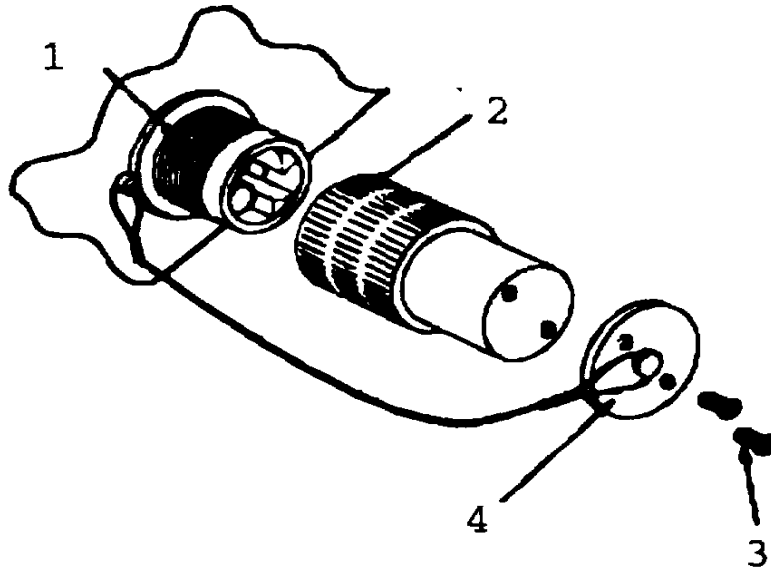
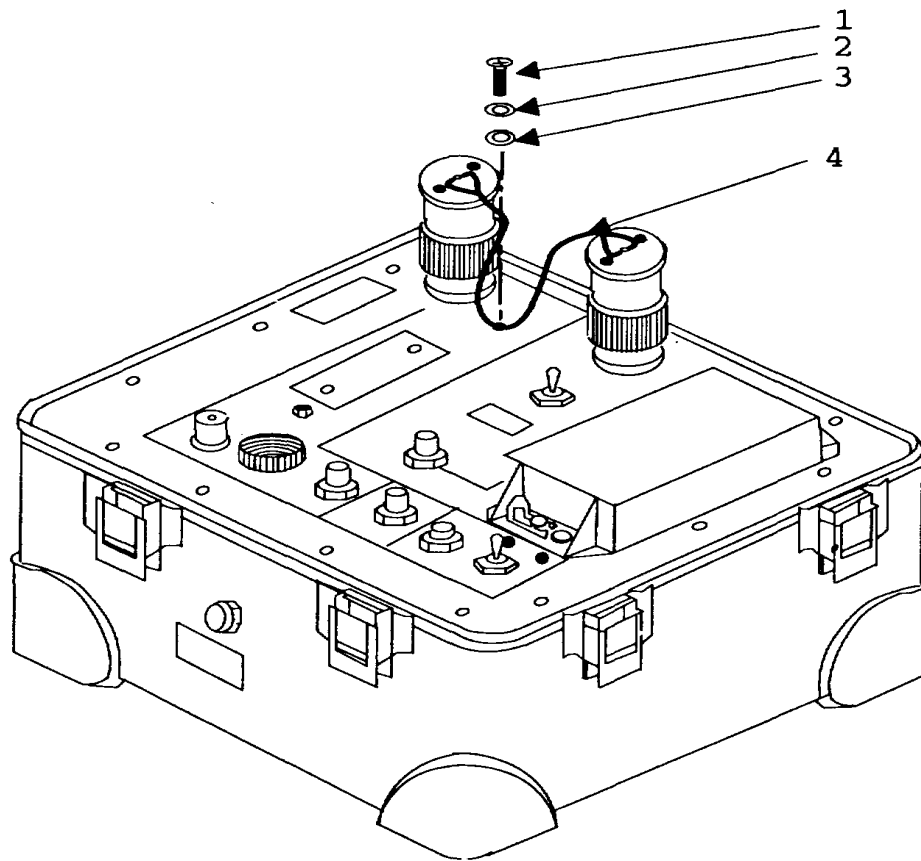

FIGURE 4-7. *FOBC Exploded View.*
FIGURE 4-8. Replacement Lanyard Attaching Screw.
- (1) Disconnect dust cover (2, Fig. 4-7) from FOBC (1).
- (2) Locate two screws (3) on top of dust cover (2).
- (3) Using flat-tip screwdriver, remove two screws (3) securing lanyard assembly (4) to dust cover (2). Set screws aside.
- (4) Locate other end of lanyard assembly that is connected to FOBC or attached to FTS front panel.
- (5) If lanyard assembly is connected to FOBC-, use wire cutters and cut lanyard assembly at loop.
If lanyard assembly is attached to FTS front panel, use flat tip screwdriver to remove screw (1, Fig. 4-8), lock washer (2), lanyard end (4), and flat washer (3).
- (6) Discard damaged lanyard assembly.
- (1) Apply drop of thread lock compound to both threaded holes on top of dust cover (2, Fig. 4-7).
- (2) Locate two screws (3) to secure new lanyard assembly (4) to dust cover (2).
- (3) Using flat-tip screwdriver, install two screws (3) in dust cover (2) to secure lanyard assembly (4) to dust cover (2).
- (4) Using No. 2 cross-tip screwdriver, remove screw (1, Fig. 4-8), lock washer (2), and flat washer (3) from FTS front panel.
- (5) Place lock washer, flat washer, and free end of lanyard assembly over screw.
- (6) Using No. 2 cross-tip screwdriver, install screw on FTS.
- (7) Place dust cover (2, Fig. 4-7) on FOBC (1).
- (3) Using flat-tip screwdriver, remove two screws (3) from top of dust cover (2). Set screws aside.
- (4) Discard damaged dust cover.
- (1) Apply drop of thread lock compound to both threaded holes at top of new dust cover (2, Fig. 4-7).
- (2) Locate two screws (3) to secure lanyard assembly (4) to dust cover (2).
- (3) Align lanyard assembly (4) to dust cover (2).
- (4) Using flat-tip screwdriver, install two screws (3) in dust cover (2) to secure lanyard assembly (4) to dust cover (2).
- (5) Install dust cover (2) on FOBC (1).